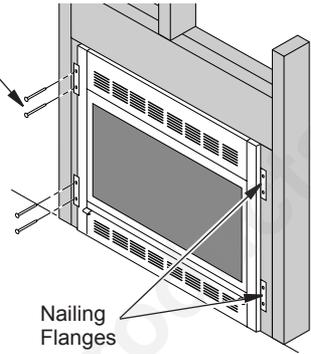

Figure 36 - Attaching Fireplace to Wall Studs
8. Attach fireplace to wall studs using nails or wood screws through holes in nailing flange (see Figure 36).